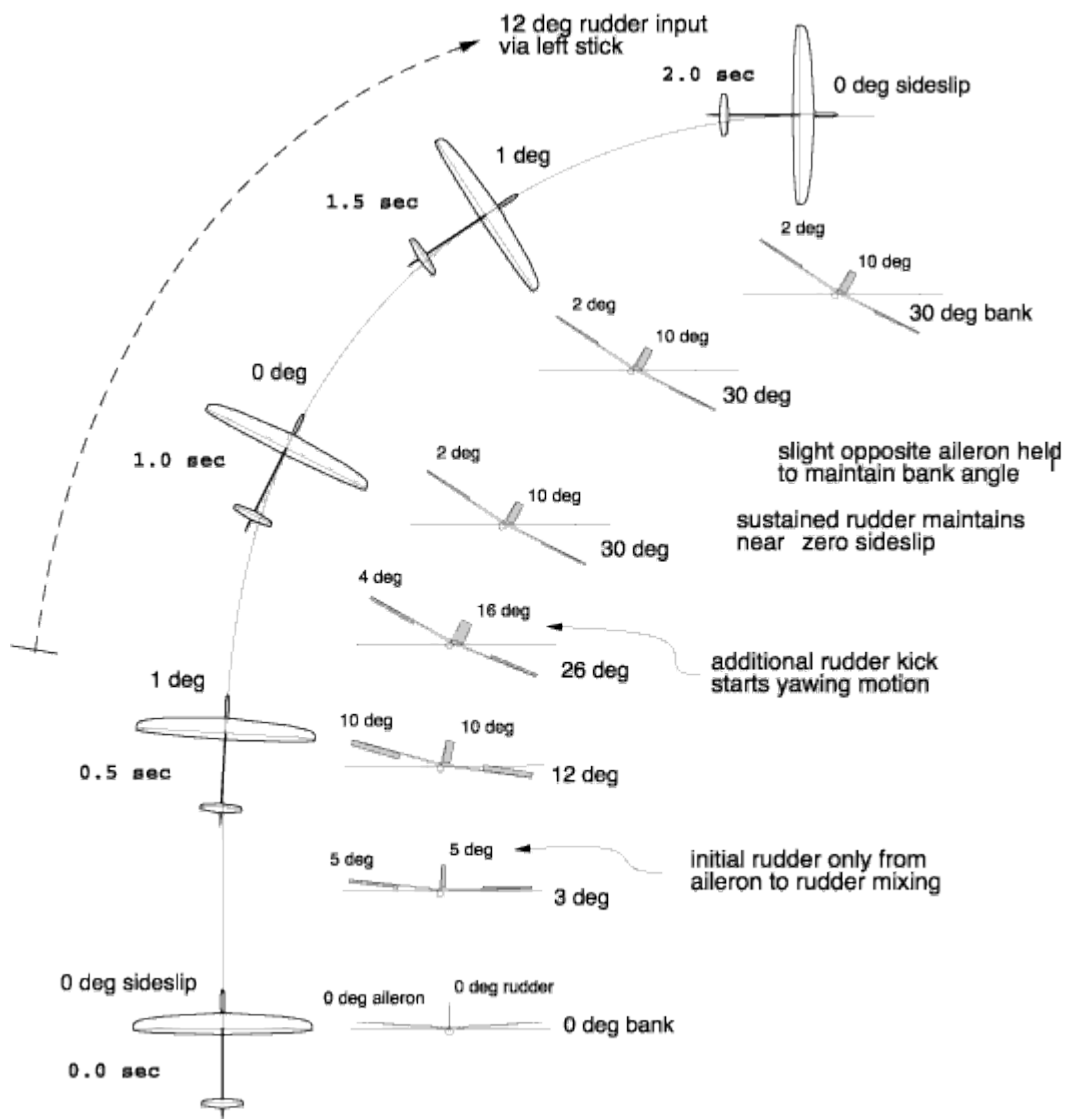

Figure 3b. No sideslip during turn entry and in sustained turn with proper rudder input.
In this case, substantial right rudder is independently applied by the left thumb as the intended bank angle is approached and the ailerons are neutralized, as shown in Figure 3b. This right rudder is then sustained throughout the subsequent steady turn, producing a minimal slideslip angle. Note that this rudder action cannot possibly be achieved with any kind of mixing. A trained left thumb is required.
The last aircraft position in Figure 3b shows the control deflections required for a slow, tight, steady sustained turn without sideslip.
- More initial rudder kick is needed to start the yawing motion upon turn entry. The 16 deg rudder deflection position in Figure 3b may need to have a somewhat larger momentary rudder input.